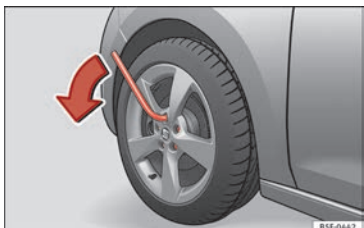

Fig. 58 Wheel: loosen the wheel bolts.
- Turn the wheel bolt approximately one turn to the left » Fig. 58 (arrow). To apply the required torque, hold the wheel brace at the end. If it is not possible to loosen a wheel bolt, carefully apply pressure with one foot on the end of the box spanner. Hold on to the vehicle for support and take care not to slip.